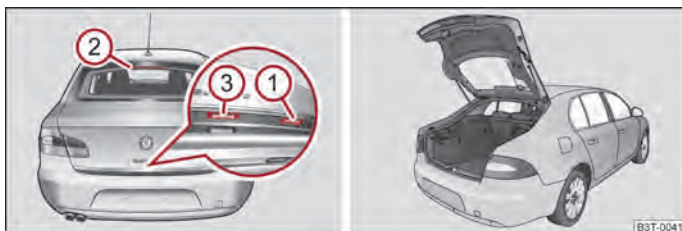

Fig. 18 Handle of boot lid/opened large boot lid
After unlocking the vehicle with the remote control key or the key ⇒ page 38, Emergency unlocking and locking of the driver's door you can open the large boot lid ⇒ fig. 18.
- Press the handle ① ⇒ fig. 18 on the bottom edge of the boot lid.
- You must wait until the brake light ② in the rear window flashes twice.
- Press on the handle ③ and at the same time raise the boot lid.